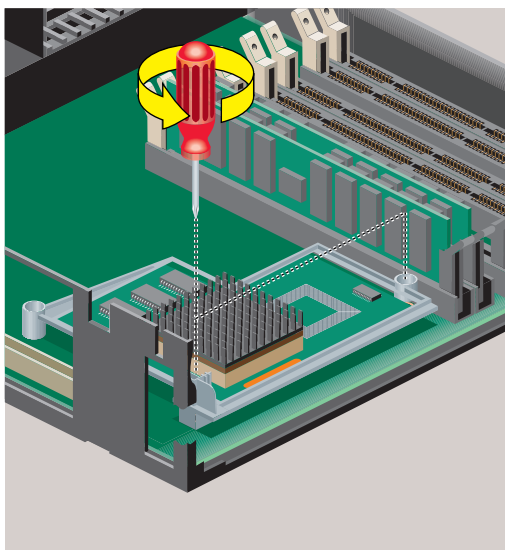

Figure 5-4 Removing the Phillips Screws on the R5000 CPU Module
5. Locate the R5000 CPU module (Figure 5-4). Use a Phillips screwdriver to remove the two screws from the locations shown.